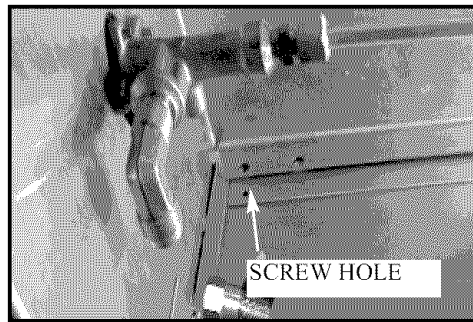

Fig. 20
2. Lock the Side Burner in place by re-inserting (1) hex head screw in the front edge of side burner. (See Fig. 20)